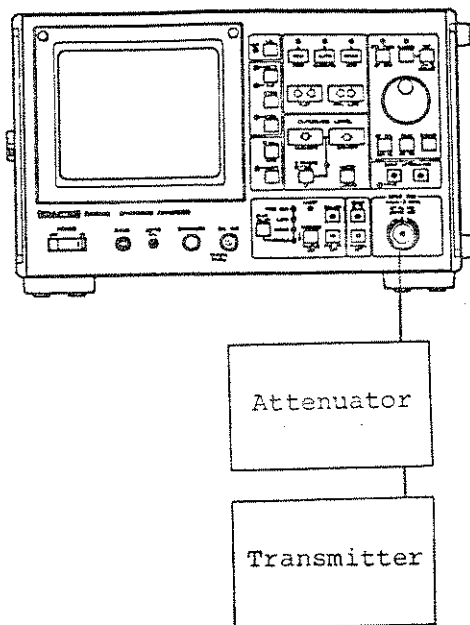
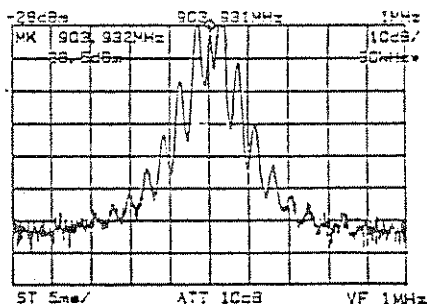

Figure 5-2 Set-up in Measurement of Modulation Wave
Figure 5-11 Measurement of FM Wave When Modulation Frequency Is Low
- ① Connect the AM transmitter output to the INPUT connector of this equipment by making it pass through the external attenuator when necessary (Figure 5-2).
- ① Connect the AM transmitter output to the INPUT connector of this equipment by making it pass through the external attenuator when necessary as shown in Figure 5-2.
- ② Set the center frequency to the frequency of the carrier.
- ③ Set the frequency span to less than 10 times the modulation frequency.
- ① Connect the FM transmitter output to the INPUT connector of this equipment by making it pass through the external attenuator when necessary, as shown in Figure 5-2.
- ② Set the carrier of the signal so that it becomes the center frequency, and make it the span suitable for analyzing the spectrum.
- ③ Set the marker to the peak of the signal.
- ④ Set the marker level to the reference level.
- ⑤ Lower the reference level (Figure 5-11).